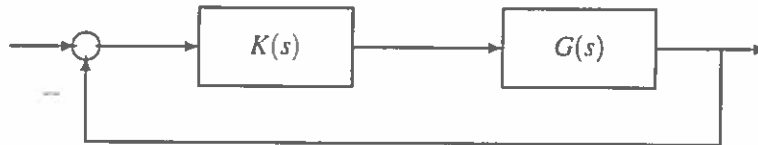

Figure 3.1
3. Consider the feedback loop shown in Figure 3.1 below. Here